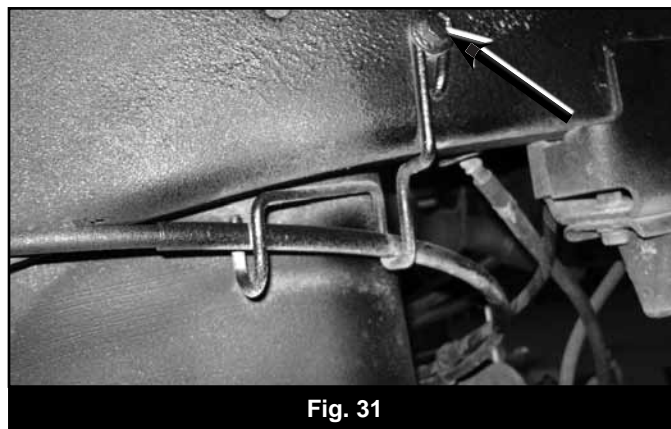

Fig. 31
5. Disconnect parking brake guide bracket on side of frame and remove from vehicle, it will not be reused. (Fig 31)